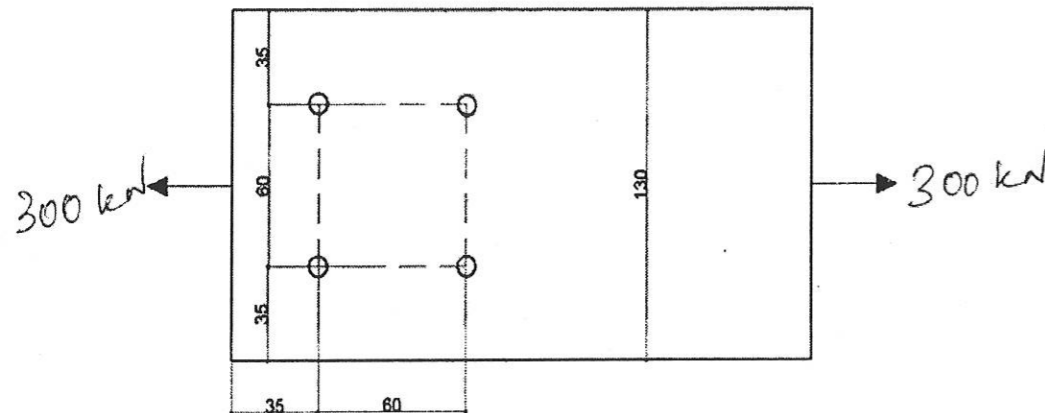

Fig. 1
13. (a) Determine the design tensile strength of the plate 130 mm × 12 mm with the holes for 16 mm diameter bolts as shown in Fig.1 Steel used is of Fe 456 grade quality.